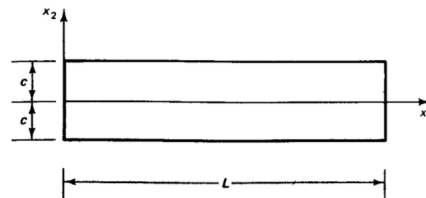

Fig. 1 Geometrical setting of cantilever beam
5. (10 pts) Consider a cantilever beam with length $L=10\text{m}$ and width $c=1\text{m}$ (see Fig. 1). Its left edge is fixed, and the rest boundaries are imposed with traction-free boundary conditions. We ignore the body force. The initial displacement is zero and the initial velocity is given as